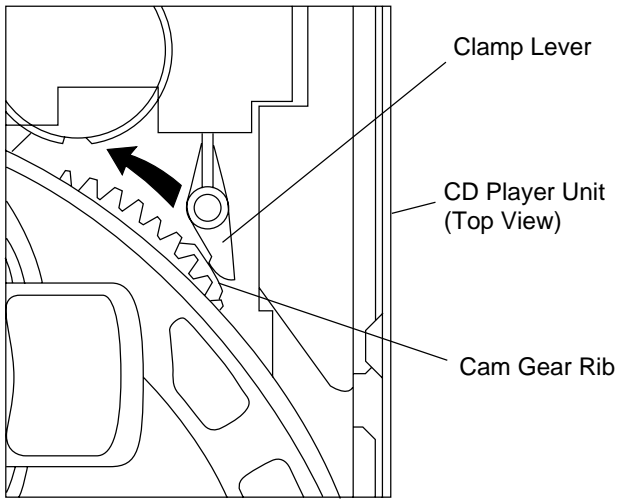

Figure 7-1
2. While holding the lock lever, rotate the cam gear anticlockwise until the cam gear rib engages with the clamp lever. (Fig. 7-1)